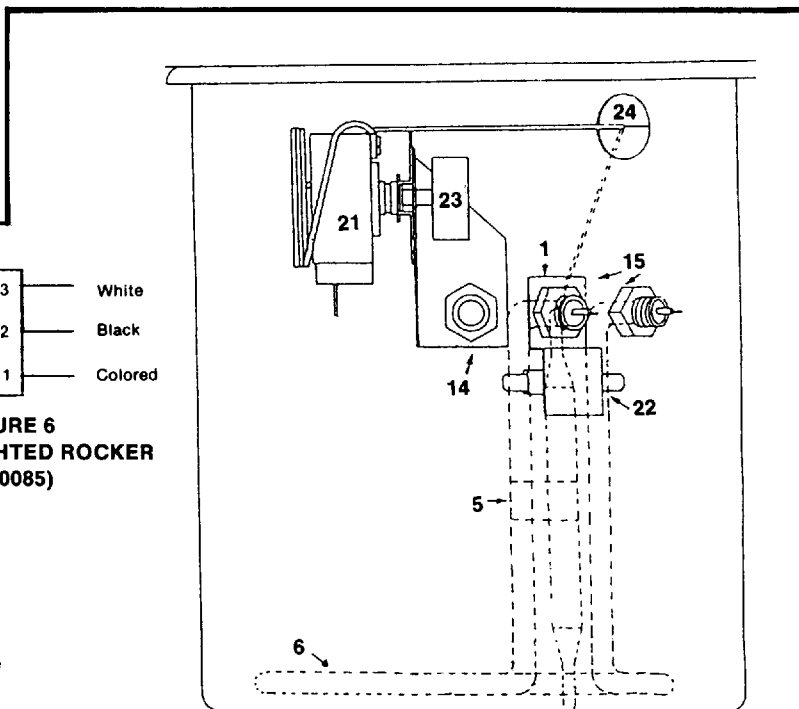

FIGURE 3
### TANK ASSEMBLY, POUR-OVER (100455) Fig. 3
5. Remove grommet (fig. 3 no. 24) from tank by pressing grommet with thumb from outside of tank.
### THERMOSTAT, HI-LIMIT (100174) Fig. 3 No. 22
### ELEMENT, TANK HEATING (100033) Fig. 3 No. 6